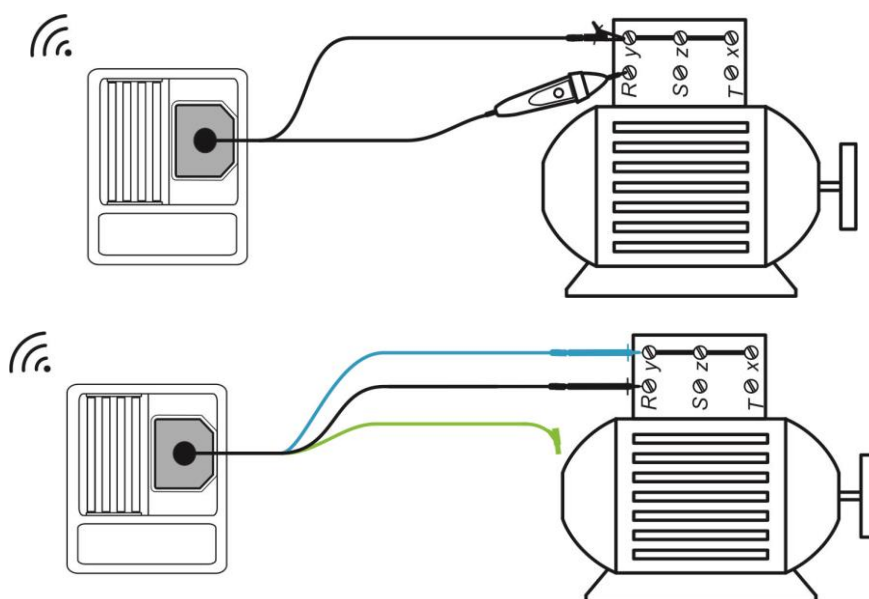

Figure 5.11: Tip commander and 3-wire test lead applications
- ❑ **Connect** test leads to the tested object (see *Figure 5.11*).